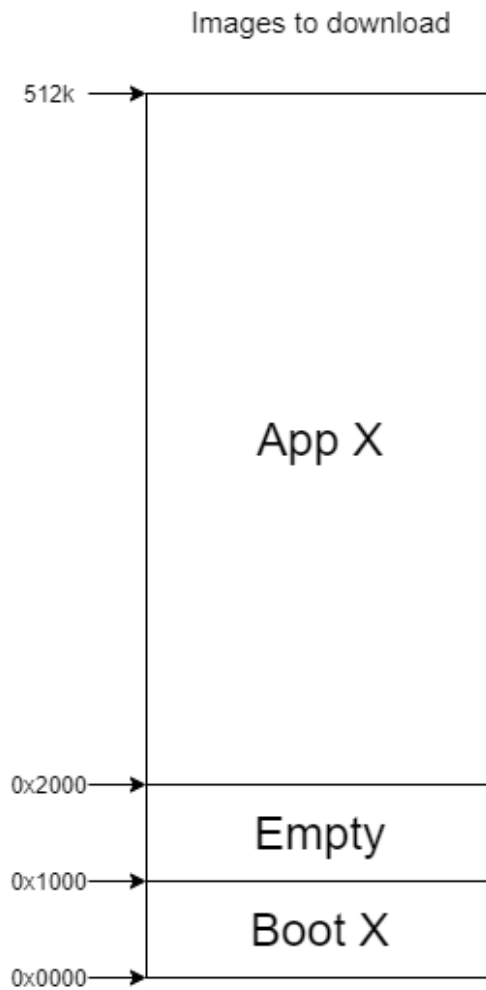

Figure 2
*Figure 2* shows a physical representation of the memory layout of the application project. Notice that the memory segments Boot A and App are filled but Boot B is empty.
- The Empty section from address 0x1000 to 0x1FFF will hold the boot section of the application project (Boot X from Figure 2)
- The Empty section from address 0x2000 to the top of memory is used to hold the app section of the application project (App X from Figure 2)